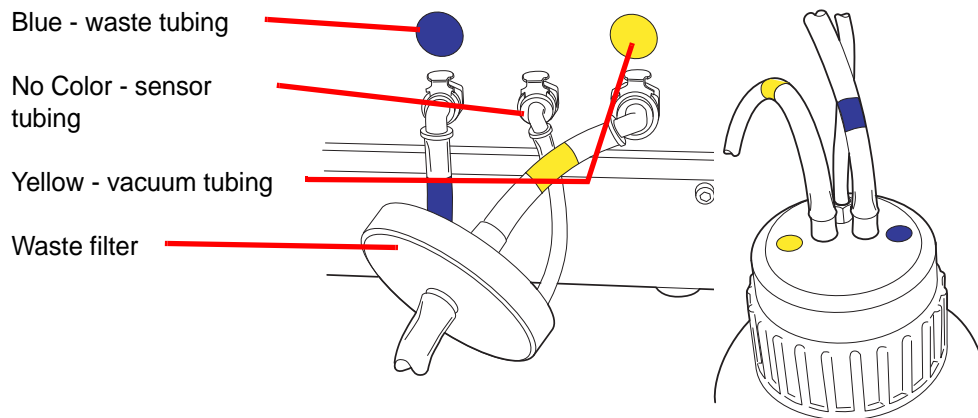

Figure 2-2 Waste Bottle Tubing Connections
3. Locate the three waste bottle connections at the rear of the ThinPrep 5000 processor. Refer to Figure 2-2. Ensure that the buttons of the connectors are in the down/inward position.